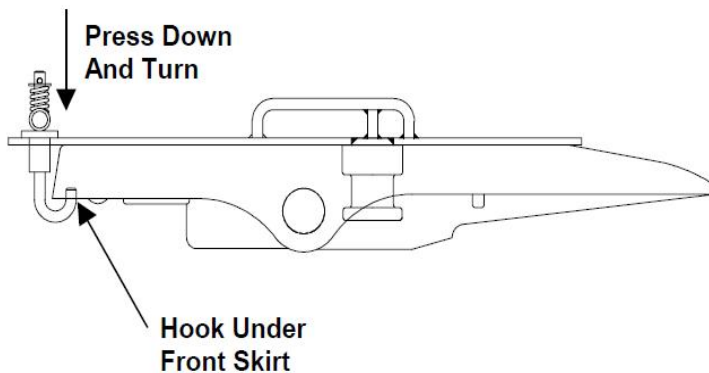

FIGURE 2
B. Engage the hook over the front skirt of the fifth wheel by depressing and rotating the spring loaded tee handle. (See figure 2)